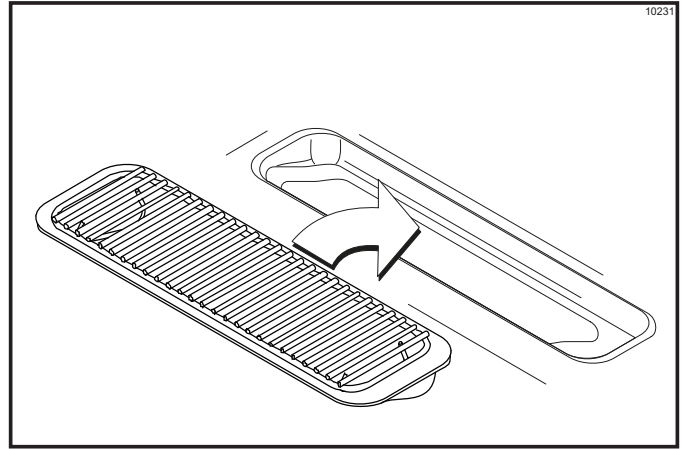

Figure 6-15
- Install the front drip tray and splash shield under the door spout. (See Figure 6-15.)